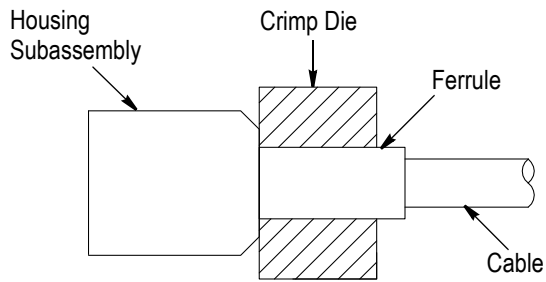

Figure 4
3.3. Crimp Ferrule to Cable (Figure 4)